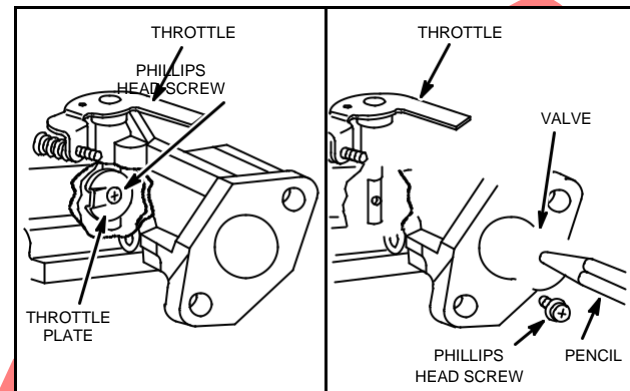

Fig. 183 - INSTALLING THROTTLE PLATE
1. Place new dust seal on throttle shaft and install in carburetor body, Fig. 183.
2. Install throttle plate in carburetor body and install Phillips or slotted screws, Fig. 183.